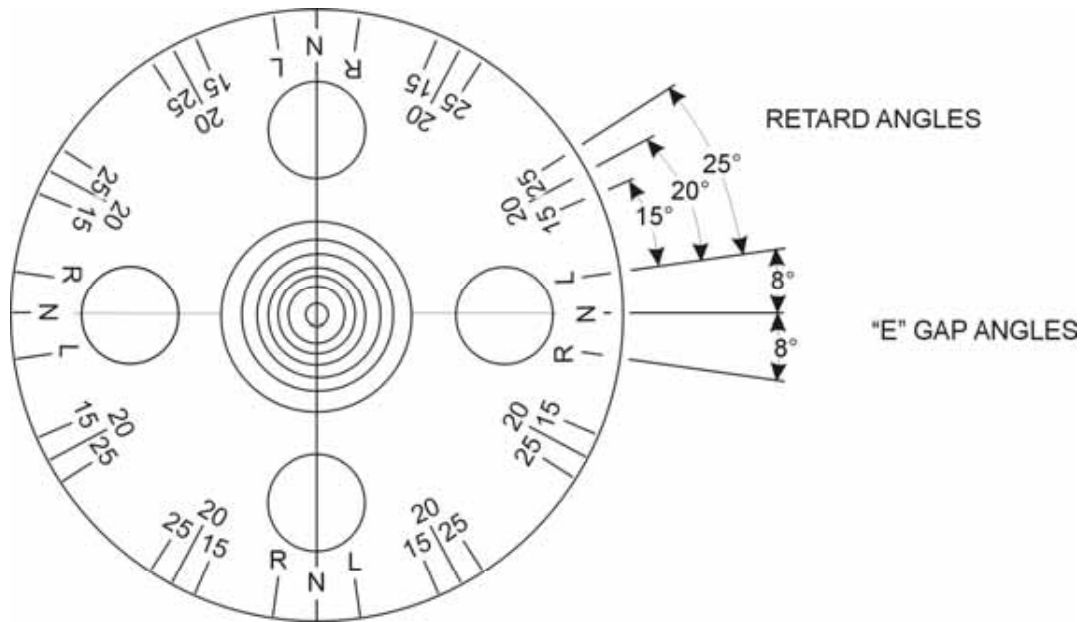

Figure 5-2. Timing Marks of Rotating Magneto
- (3) *Retard Breaker* – Remove timing light leads from the main breaker terminals. Attach one positive lead to the retard breaker terminal, and second positive to the tachometer breaker, is used.
- (4) Back the engine up a few degrees and again bump forward toward number one cylinder firing position until pointer is aligned with 15° retard timing mark. See Figure 5-2. Retard breaker should just open at this position.
- (5) If the retard timing is not correct, loosen cam securing screw and turn the retard breaker cam as required to make the retard breaker open per paragraph (4). Retorque cam screw to 16-20 in.-lbs.
- (6) Observe the tachometer breaker is open by the cam lobe. No synchronization of this breaker is required.